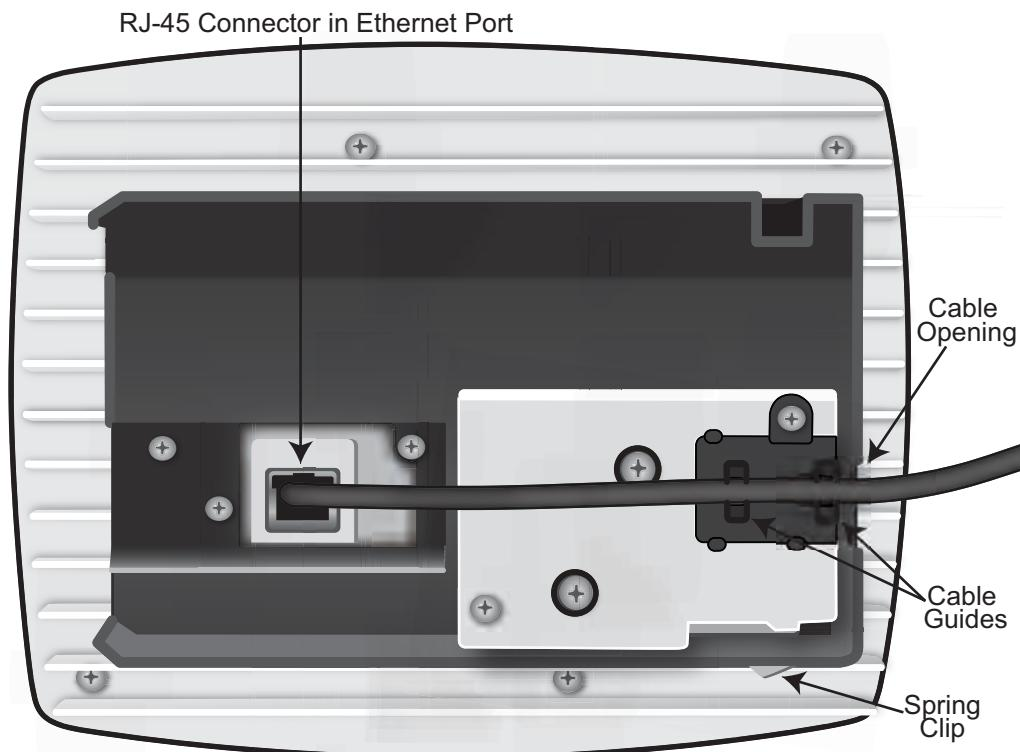
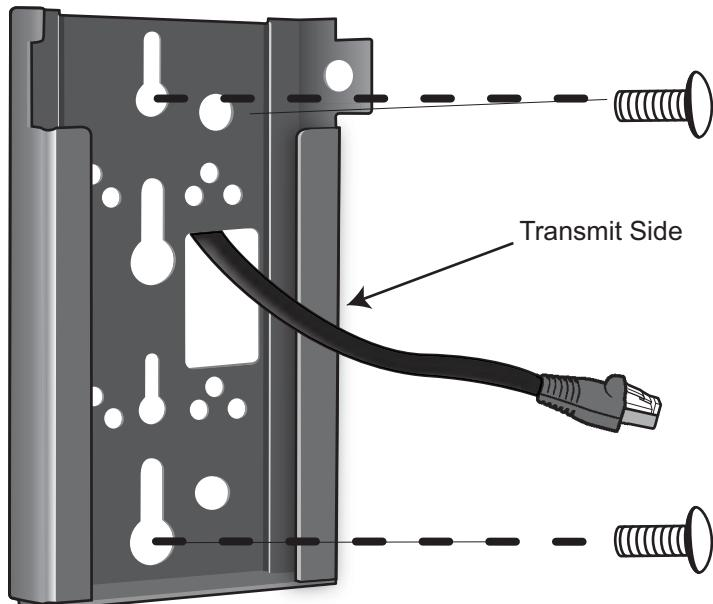

Figure 11 Route and Terminate the Cable
Figure 13 Mount Bracket with Direct Cable Routing
Step 2 Insert the RJ-45 connector into the Ethernet port as shown in Figure 13. Route the Ethernet cable through the cable guides and pedestal base cable opening and through the cable guides as shown in Figure 11: